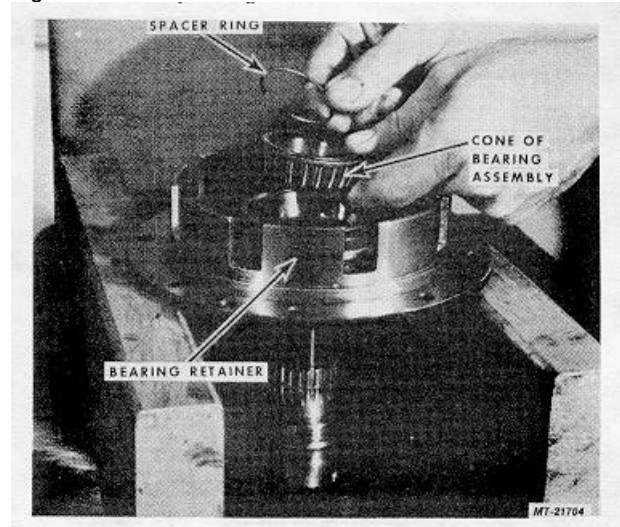

Fig. 12
9. Remove Spacer Ring and cone of Bearing Assembly, Fig. 12.